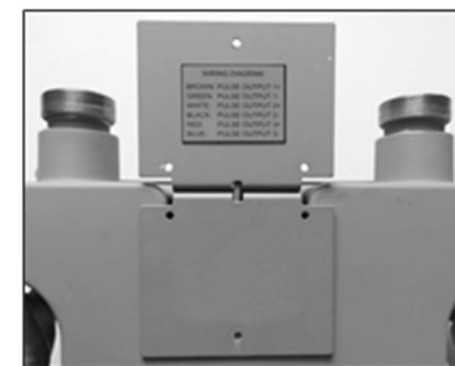
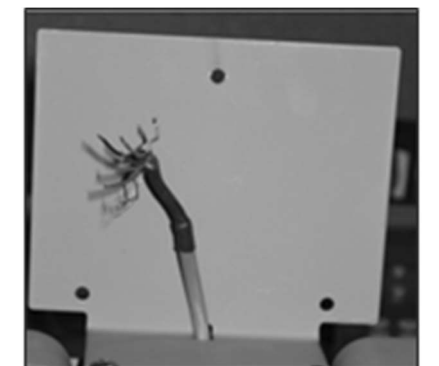

Figure 20: Properly positioned mounting bracket
Figure 21: Pull cable through the center hole
- Flip one bracket over as shown in Figure 20, and feed the cable through the holes located at the bend of the mounting brackets. Refasten the brackets to the meter as shown in Figure 21.